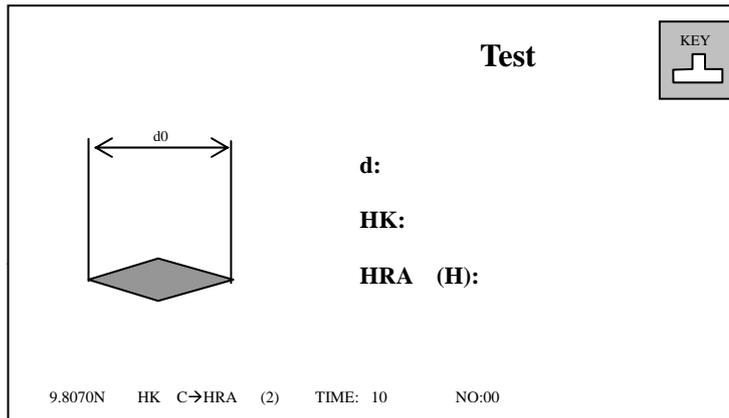

Figure 11
In doing Knoop's hardness testing, the testing procedure requires the measuring of  $d$ . Other procedure and status remains similar to that of Vicker's hardness testing (as shown in Figure 11).
- 4.17 In Knoop's hardness test, the testing procedure stipulates that only d will be measured. Except for that, the working procedure and status are similar to that of Vicker's hardness test. For screen display, refer to Figure 11.